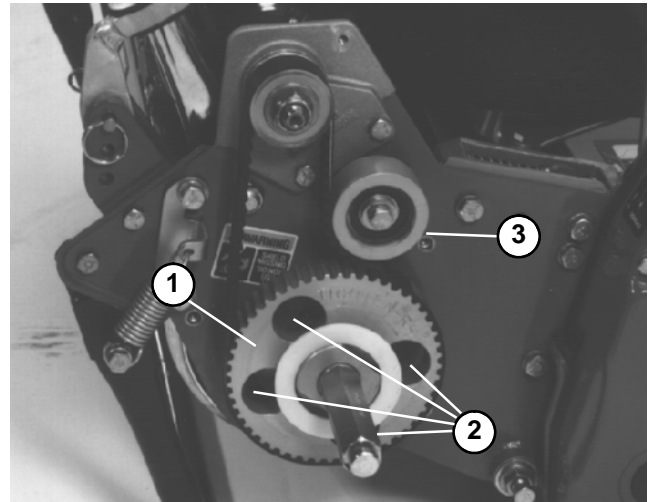

Figure 9
7. Rotate drive pulley until holes align with all four roller bearing flange screws (Fig. 9).
8. Loosen all four roller bearing screws and screw securing idler pulley. Raise or lower right side of drum assembly until the gap is reduced to less than 0.010 inch (0.254 mm). Torque drum bearing cap screws from **16 to 20 ft-lbs (2.2 to 2.8 kg-m)** (Fig. 9). Adjust belt tension and tighten idler pulley mounting screw (see Drive Belt in Adjustments section of Chapter 4 - Traction and Reel Drive System).